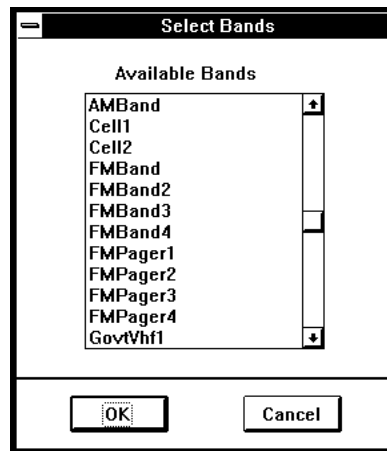

Figure 5-21: Select Bands List Box
2. Click on **B**ands on the **Multiple Band Menu Bar** to open the **Bands** menu and then click on **Select Bands...** to open the **Select Bands** list box (Figure 5-21) displaying all the pre-defined bands available for monitoring.